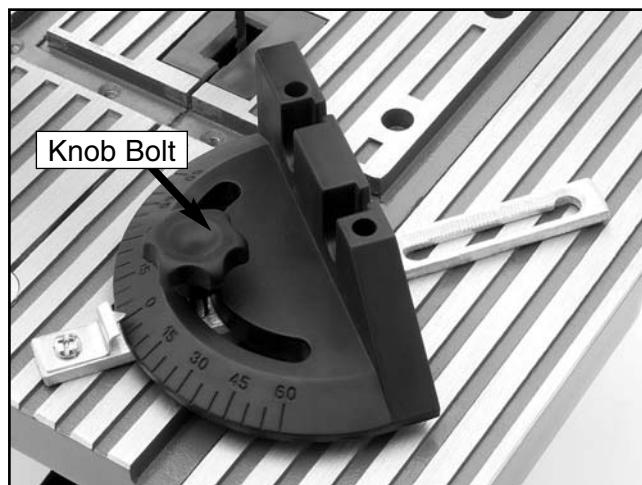

Figure 14. Assembled miter gauge.
2. Secure the miter body to the miter bar with the M6-1.0 x 15 knob bolt, (**Figure 14**).